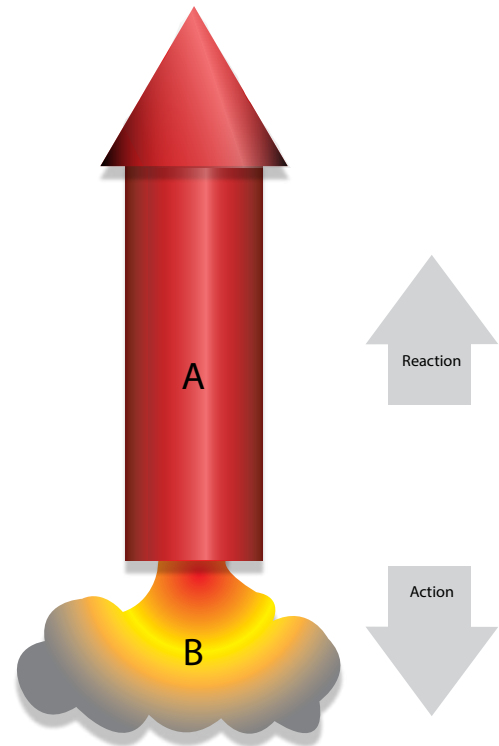

Fig. 1 Action & Reaction
It wasn’t until 1686 that, thanks to the Englishman Sir Isaac Newton (Img. 1), we truly understood how and why they worked. His theory, that “To every action, there is always an equal and opposite reaction”, demonstrated quite simply that if Object A exerts a force on Object B, then Object B exerts an equal force on Object A, but in the opposite direction (Fig.1).
In “Action & Reaction” (Fig. 1) you can see that the jet engine (A) is creating exhaust gasses (B). As the engine pushes the gasses outward, those same gasses exert a force on the engine, pushing it forward. This is how the thrust is produced, generating the energy our rocket needs for flight.